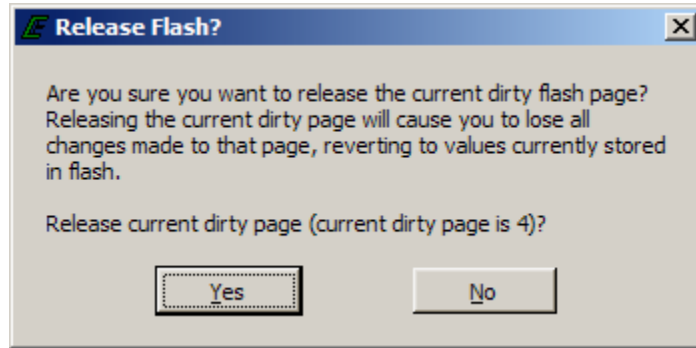

Figure 21: Release Dirty Page Prompt
- ***Release Dirty Page:*** Deletes updated calibration variables from ECM RAM and reverts back to the calibration stored in flash memory. Prior to releasing the updated variables from RAM, the prompt in Figure 21 will be displayed.